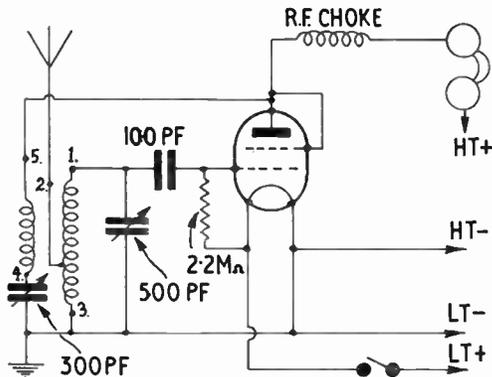

Fig. 1—The receiver circuit
**T**HE circuit of this receiver is shown in Fig. 1, and it uses a 1T4 valve, or any equivalent type, such as the iF3, DF91, etc. For filament current, a  $1\frac{1}{2}$ V. dry battery is used, and will have a very long working life. For high tension, a  $67\frac{1}{2}$ V. or similar battery is satisfactory, and the current taken by the single valve is small.